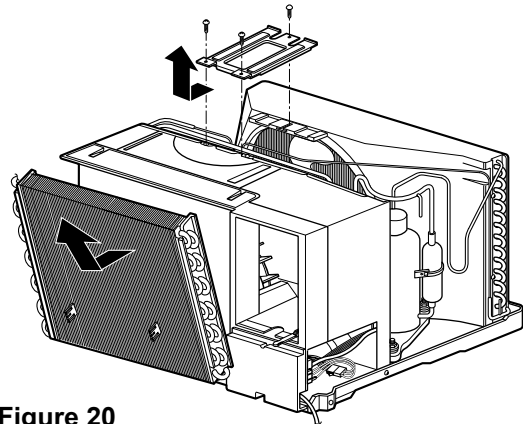

Figure 20
7. Move the evaporator forward and pulling it upward slightly. (See Figure 20)